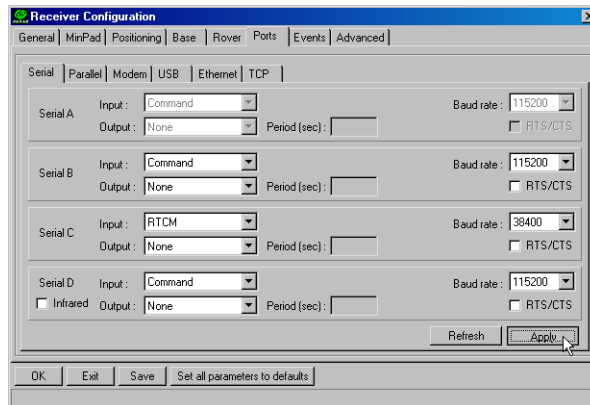

Figure 3-14. Rover Configuration – Ports
6. Select the Ports tab and set the following parameters for Serial C (Figure 3-14 on page 3-17):